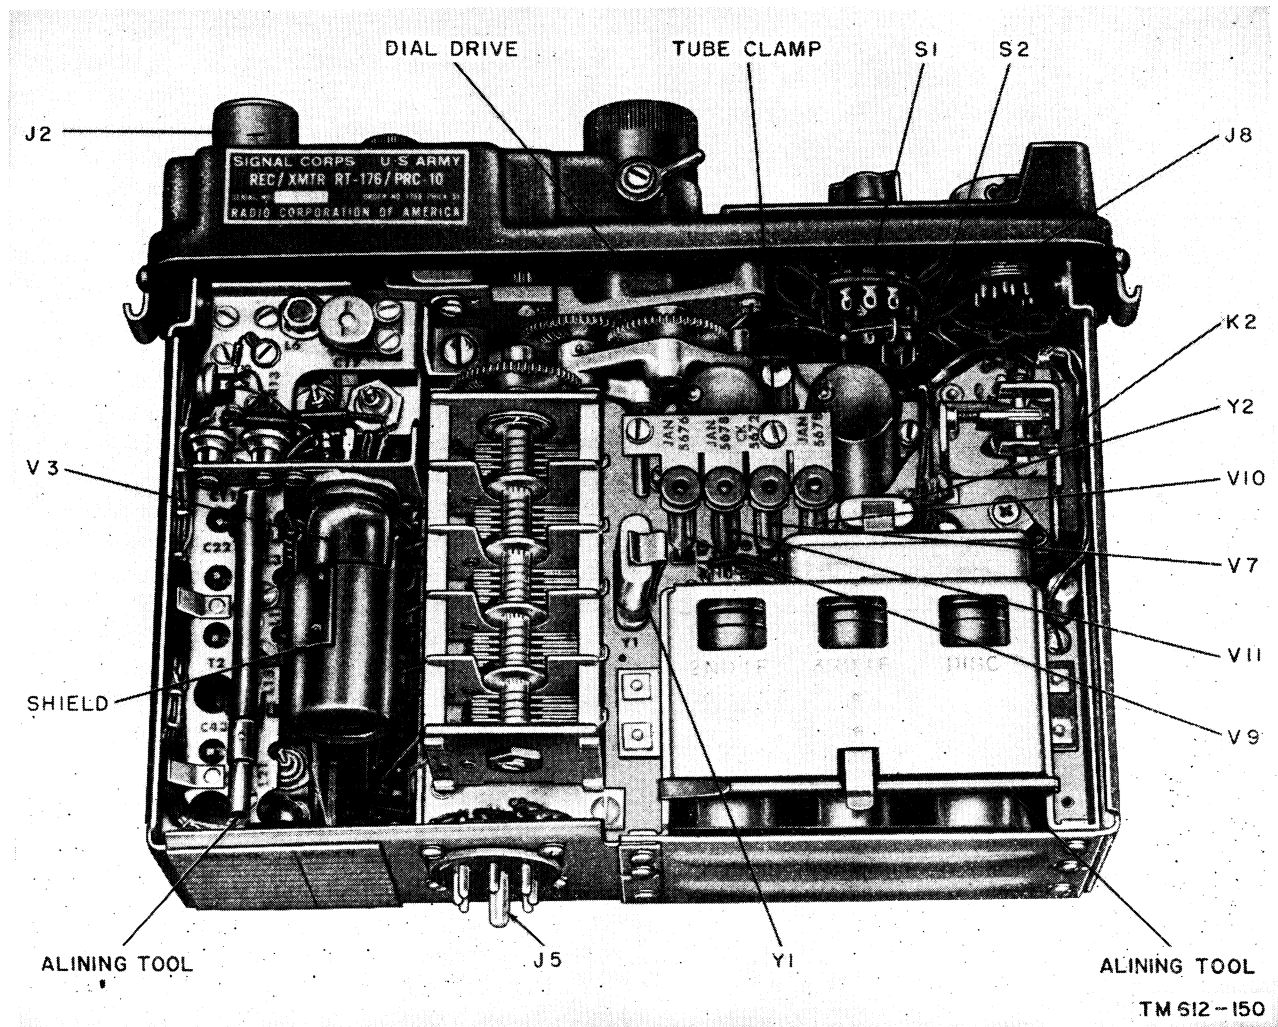

Figure 6. Receiver-transmitter chassis, bottom view.
c. **PANEL.** The cast-aluminum panel is secured to the chassis by six screws. The controls are shown in figure 14. The dial-drive mechanism (fig. 6) is an antibacklash gear train, with the antenna tuning components mounted on and operated by the mechanism. The dial drum with its frequency markings and the pointer are visible through a lens on the panel.
d. **CHASSIS.** The chassis (figs. 6 and 7) is a spot-welded sheet-aluminum assembly on which are mounted all components of the unit except
on the left side of the box. These boxes house the circuits for the transmitter oscillator, the first r-f amplifier, the second r-f amplifier, the mixer, the receiver oscillator, and the afc driver. The names are printed on the tops of the respective boxes. The tube which is plugged into the socket on the transmitter oscillator box is *not* the transmitter oscillator tube but is the modulator tube, V2. Each of the other five boxes has the tube which corresponds to the name on the box plugged into it. The boxes contain coils, capacitors, and resistors which are shown included within dotted-line boxes on the main schematic diagrams (figs. 37, 38, and 39). Refer to TM 11-4065 (figs. 37, 38, and 39) for inside views of these boxes. Each box has a terminal board from which voltage and resistance measurements may be made. These terminal boards are just below tube V3 (fig. 6) and are accessible when that tube is removed from its socket. Voltages and resistances at these terminals are indicated in figure 27 of TM 11-4065. The reference symbols for these boxes as indicated
(3) *Miscellaneous components.* The following items on the chassis of the receiver-transmitter may be located on figures 6 and 7: